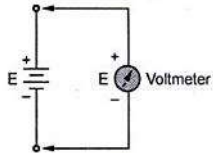

Fig. 1.17 E.M.F of a cell
1. **E.M.F. of a cell** : The voltage of a cell in an open circuit condition, measured by a very high resistance voltmeter is called e.m.f. of a cell. This is denoted as E , measured in volts. This is shown in the Fig. 1.17.